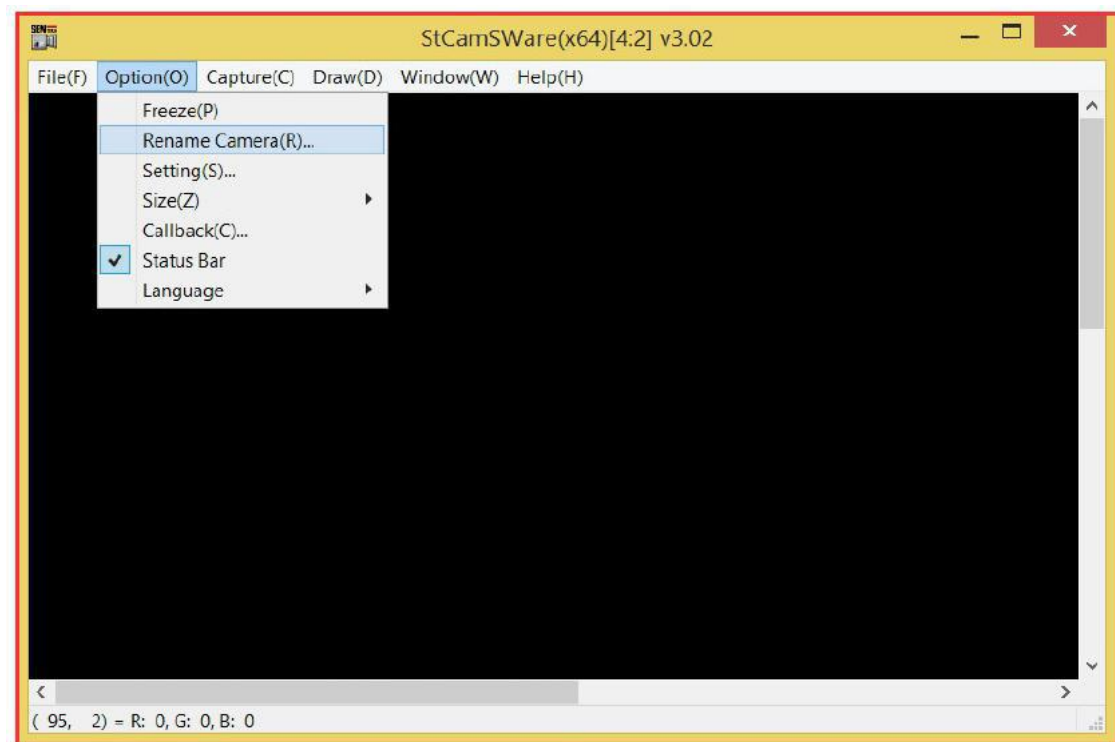

Figure 29 Optical Camera Live View
28. Go to "Option" and select Rename Camera (R) as below Figure 29.